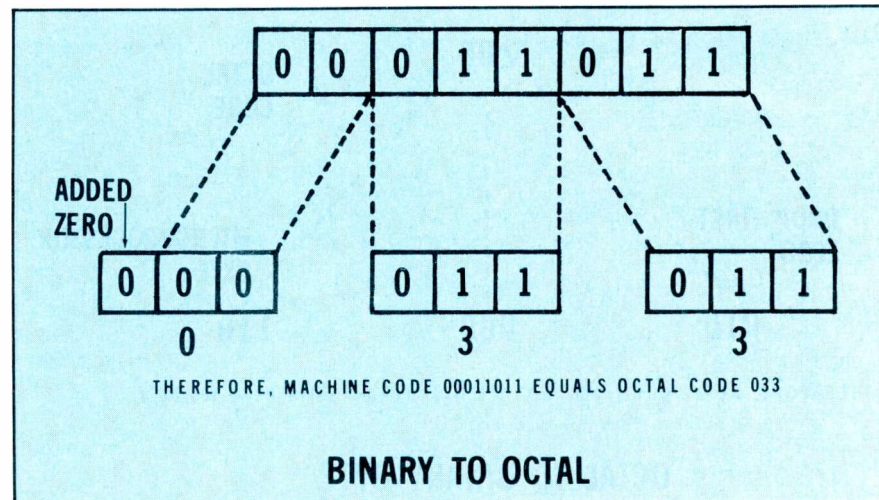

Figure 1 An 8-digit binary machine code byte is converted to octal code by adding a zero at the left and arranging in groups of three.
Figure 1 shows how the 8-digit byte is converted into the more convenient octal code. First, the binary number is divided into three sections, beginning at the right. Notice that a zero must be added to the section at the left to complete the third 3-digit number.
Notice that binary 000 corresponds to decimal 0, and 011 corresponds to decimal 3. From Figure 1, therefore, the digital 00011011 can be expressed as octal number 033.
- Attach an insulated wire to a metal coffee can lid, as shown in Figure 1.